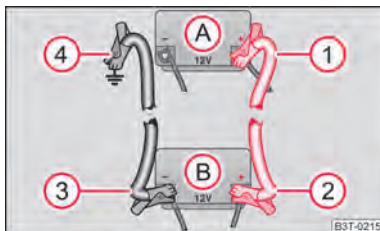

Fig. 193 Jump-starting using the battery from another vehicle: A - flat vehicle battery, B - battery providing current
- Attach one end ① ⇒ fig. 193 to the positive terminal of the discharged battery (A).
- Attach the other end ② to the positive terminal of the battery supplying the power (B).